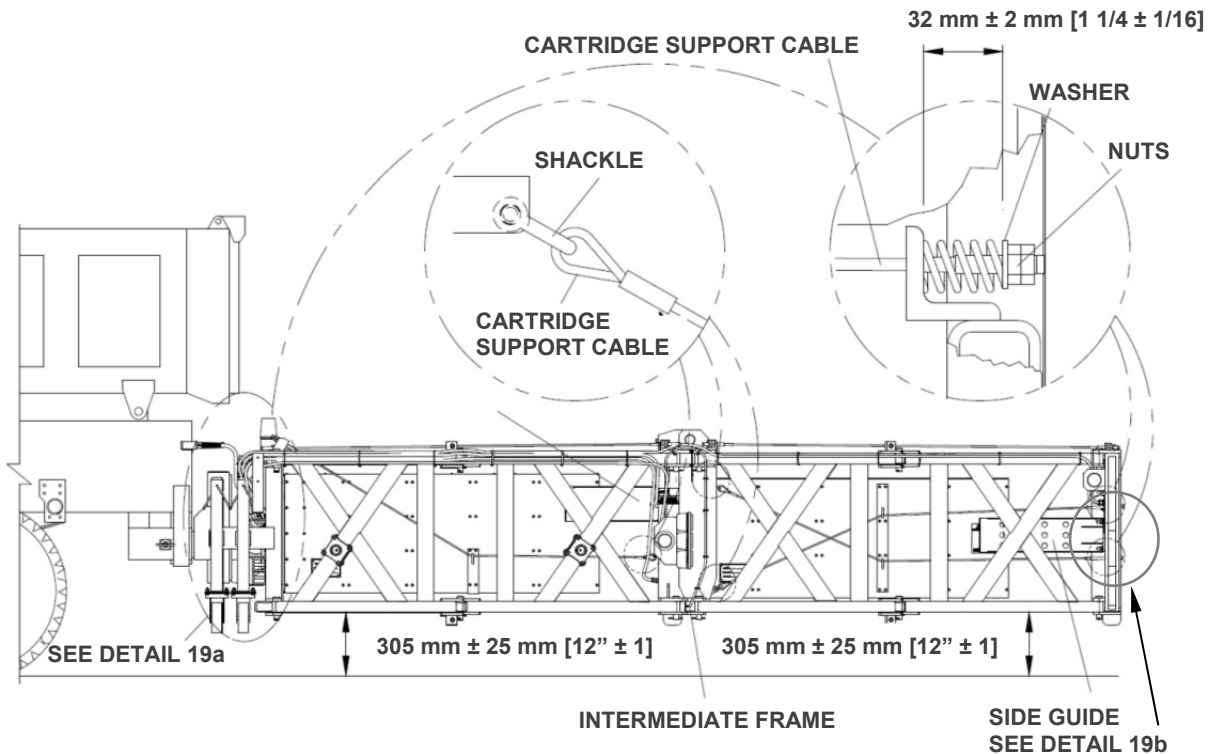

Figure 19
There are six Cartridge Support Cables. Assemble the cables as shown in Figure 19.
Attach thimble end of all Cartridge Support Cables to the intermediate frame using the provided shackles. Pass the stud end of the cable through the corresponding Cartridge Chain Loop, and attach as shown in Figure 19 using a die spring, washer and nuts.
Verify that the system frame is 305 ± 25 mm [$12'' \pm 1''$] from the ground at the front and rear of the system. It may be necessary to add shims to the Socket Hitch in order to adjust the levelness of the Cartridge (See Figures 19 & 19a).
A. Cartridge Support Cables - The spring length shall be $32\text{mm} \pm 2\text{mm}$ [$1\frac{1}{4}'' \pm 1/16$] (See Figure 19 on Page 22).